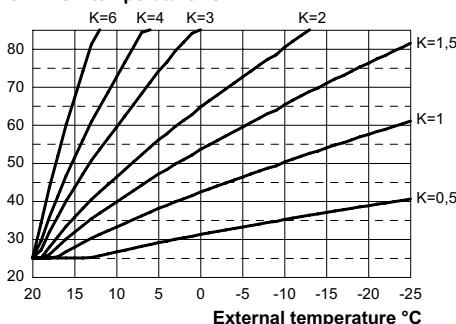

Fig. 8.6
If the boiler is **EQUIPED** with the remote control (optional) refer to Fig. 8.6.
When installing the external probe it is necessary to set this parameter based on the efficiency of the heating system in order to optimise the flow temperature (Fig. 8.6).
E.g. In order to have a flow temperature at the heating system of 60°C with an external temperature of -5°C, set a K at 1.5 (sectioned line in Fig. 8.6).
- Using keys 18 or 19 it is possible to change the value of parameter 15 from a minimum of **01** to a maximum of **60** based on the selected bend of the K coefficient in Fig. 8.6 (the value read on the display corresponds to K coefficients decimal values).